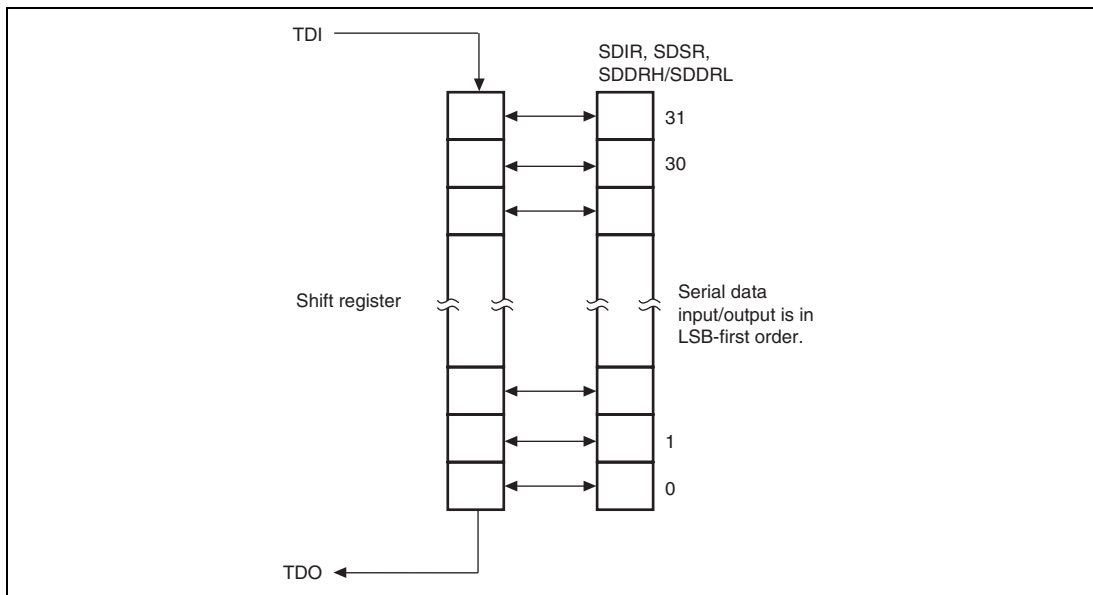

Figure 22.5 Serial Data Input/Output
- In serial data transfer, data input/output starts with the LSB. Figure 22.5 shows serial data input/output.